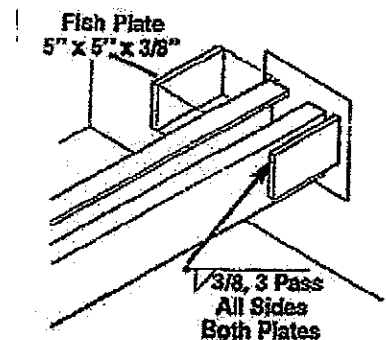

Figure 6
18. Weld fish plates to the center channels of the unit and to the plate imbedded in the rear pit wall. Refer to Figure 6 for recommended fish plate sizes and location.